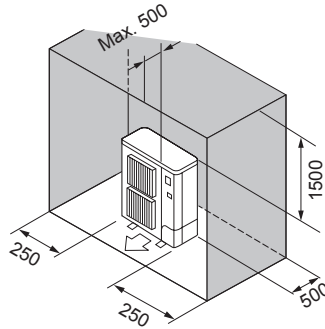

Fig. 2-8
- ⑥ Obstacles at rear, sides, and above (Fig. 2-8)